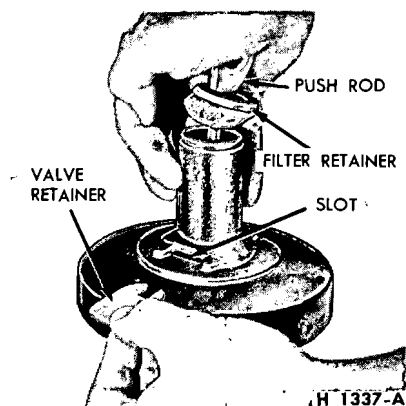

FIG. 39—Removing or Installing Valve Retainer—Bendix Booster
9. Hold the diaphragm plate so that the valve retainer is facing downward. Press the valve push rod inward to release the tension on the retainer and allow it to drop out of the plate (Fig. 39).